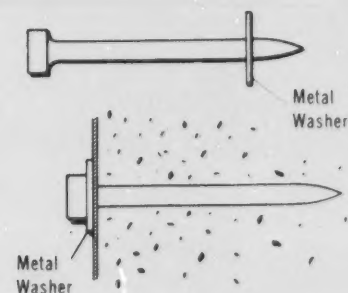

Figure 20-4. Use of Metal Washer with Fastener
d) Some types of fasteners have two types of guides: plastic and metal washer. The metal washer guide increases the bearing area of the fastener head, giving it greater holding strength (Figure 20-4). It also prevents the fastener from over-penetration in soft material.